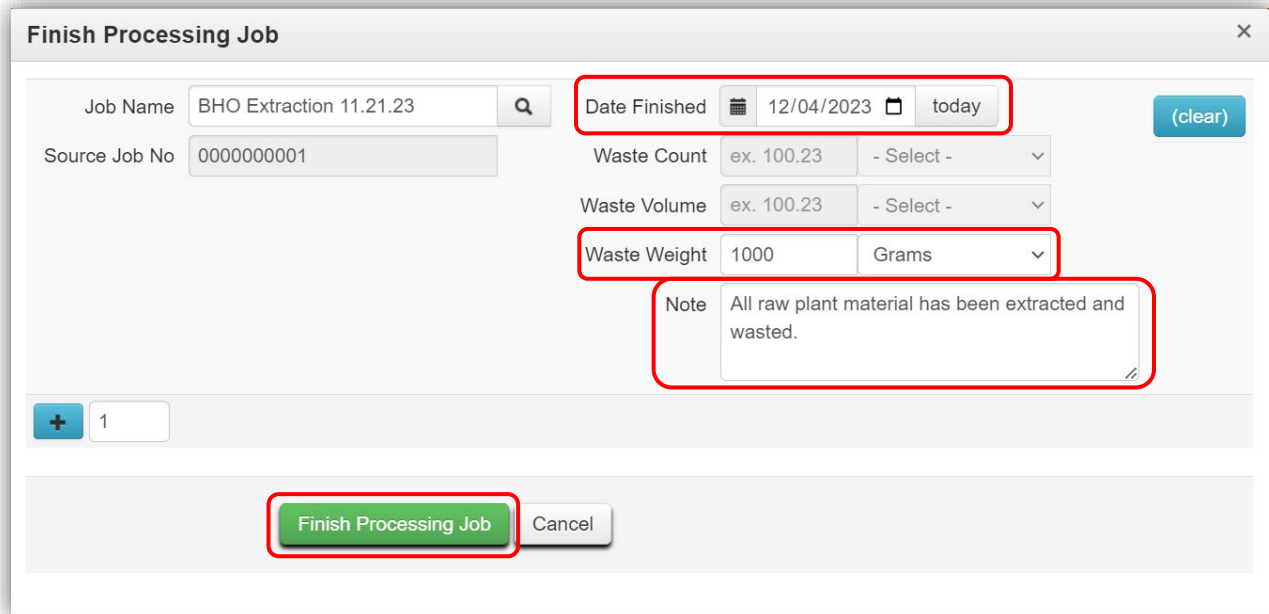

Figure 17: Finish Processing Job action window
- Click the green Finish Processing Job button to complete – **see Figure 17.**